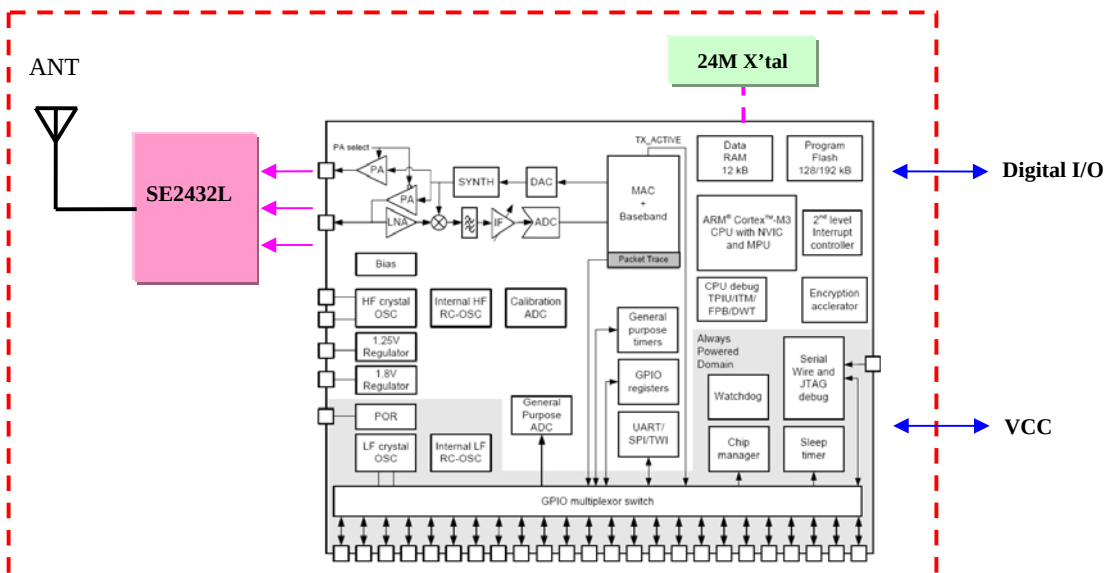

Figure 3-2: DFZM-E821x Block Diagram
- o The high power module option has a capability of +18.5dBm output power at the antenna (see Figure 3-2).